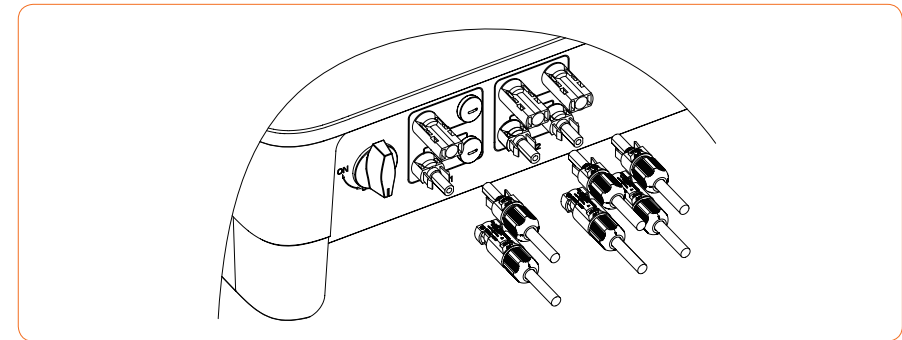

Figure 4-14
- ① Before assembling the DC connector, make sure that the cable polarity is correct.
- ② Use a multimeter to measure the voltage of the DC input string, verify the polarity of the DC input cable, and ensure that each string voltage is within 600V.
3. Insert the positive and negative connectors into the inverter DC input terminals respectively, a click sound should be heard if the terminals are well connected, as shown in Figure 4-14: